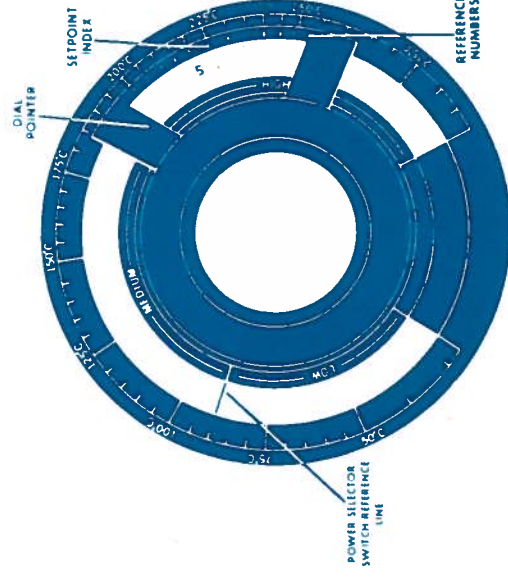

Figure 3
### V. USING THE MEMORY RING DIAL® AND REFERENCE NUMBERS (See Figure 3)
- D. After unit has stabilized at +220° C., note which reference number lines up with +220° C. (In this example, assume number 5 lines up). See Figure 3.